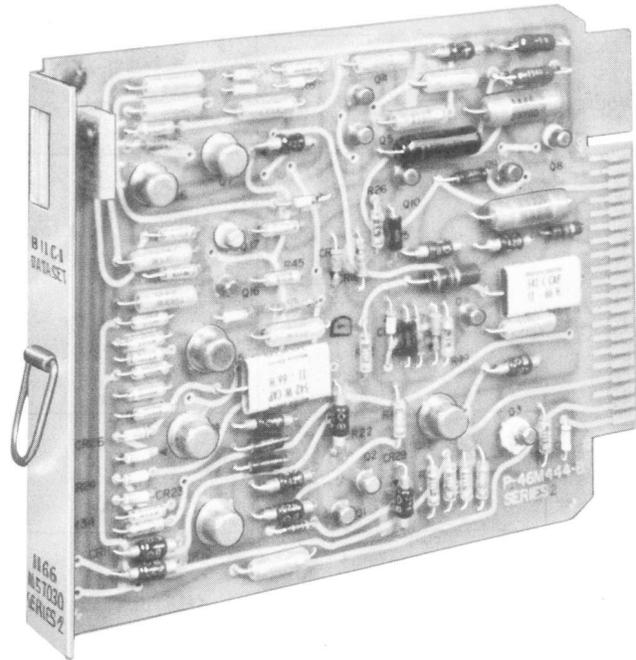

Fig. 4—Data Auxiliary Set 811C
2.02 The Data Auxiliary Set 811C is a printed circuit board and is shown by Fig. 4. Refer to the section entitled Data Auxiliary Set 811C, Description (314-421-100) for additional information on the Data Auxiliary Set 811C.